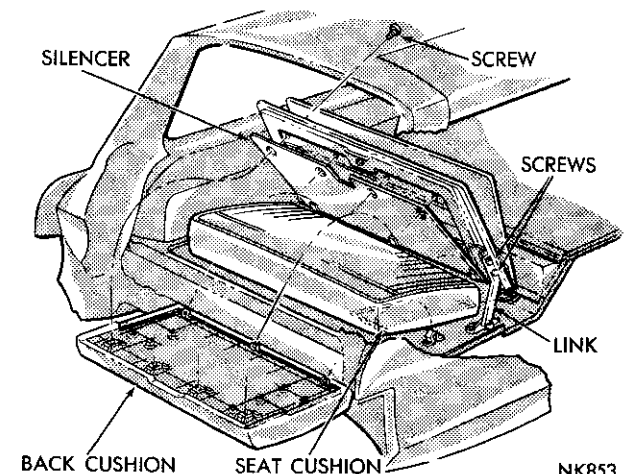

Fig. 37—Third Seat Back and Cushion
Removal (Third Seat Back) (Fig. 37)
- (1) With the third seat back in the UP position, remove the screws from the seat hinge links.
- (2) Remove the seat back and support panel assembly.
- (3) The seat back cushion is retained to the seat back panel (Fig. 37) with screws.